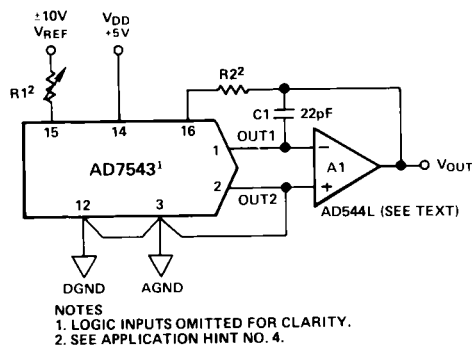
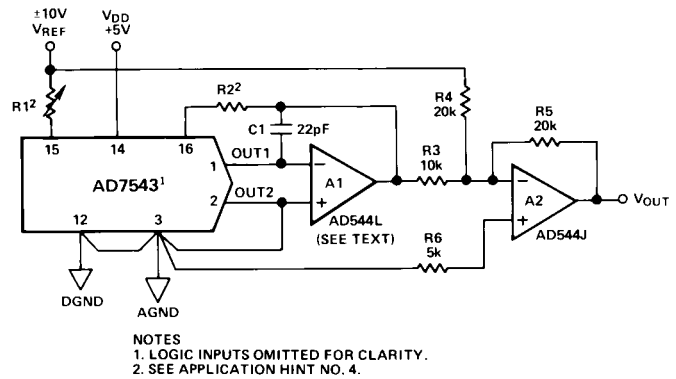

Figure 6. Unipolar Binary Operation (2-Quadrant Multiplication)
Figure 7. Bipolar Operation (4-Quadrant Multiplication)
Gain is defined as the ratio of the DAC's Full Scale output to its reference input voltage. An *ideal* AD7543 would exhibit a gain of  $-4095/4096$ . Gain error is adjustable using external trims as shown in Figures 6 and 7.
Register B can be asynchronously reset to 0000 0000 0000 by bringing  $\overline{CLR}$  momentarily LOW. This allows the DAC output voltage to be set to a known condition, thus simplifying system initialization procedure. When operating the AD7543 in the unipolar circuit of Figure 6, a CLEAR causes the DAC output voltage to equal 0V. When using the bipolar circuit of Figure 7, a CLEAR causes the DAC output to equal  $-V_{REF}$ .
Figure 6 shows the analog circuit connections required for unipolar binary (2-quadrant multiplication) operation. The logic inputs are omitted for clarity. With a dc reference voltage or current (positive or negative polarity) applied at pin 15, the circuit is a unipolar D/A converter. With an ac reference voltage or current (again of + or - polarity) the circuit provides 2-quadrant multiplication (digitally controlled attenuation). The input/output relationship is shown in Table III.
Table III. Unipolar Binary Code Table for Circuit of Figure 6
Figure 7 and Table IV illustrate the circuitry and code relationship for bipolar operation. With a dc reference (positive or negative polarity) the circuit provides offset binary operation. With an ac reference, the eleven LSBs provide digitally controlled attenuation of the ac reference while the MSB provides polarity control.
Table IV. Bipolar Code Table for Offset Binary Circuit of Figure 7
4. **GAIN TEMPERATURE COEFFICIENTS:** The gain temperature coefficient of the AD7543 has a maximum value of  $5\text{ppm}/^\circ\text{C}$  and a typical value of  $2\text{ppm}/^\circ\text{C}$ . This corresponds to gain shifts of 2.0LSBs and 0.82LSBs respectively over a  $100^\circ\text{C}$  temperature range. When trim resistors are used to adjust full-scale range as shown in Figures 6 and 7 the temperature coefficient of R1 and R2 should be taken into account. It may be shown that the additional gain temperature coefficients introduced by R1 and R2 may be approximately expressed as follows:—